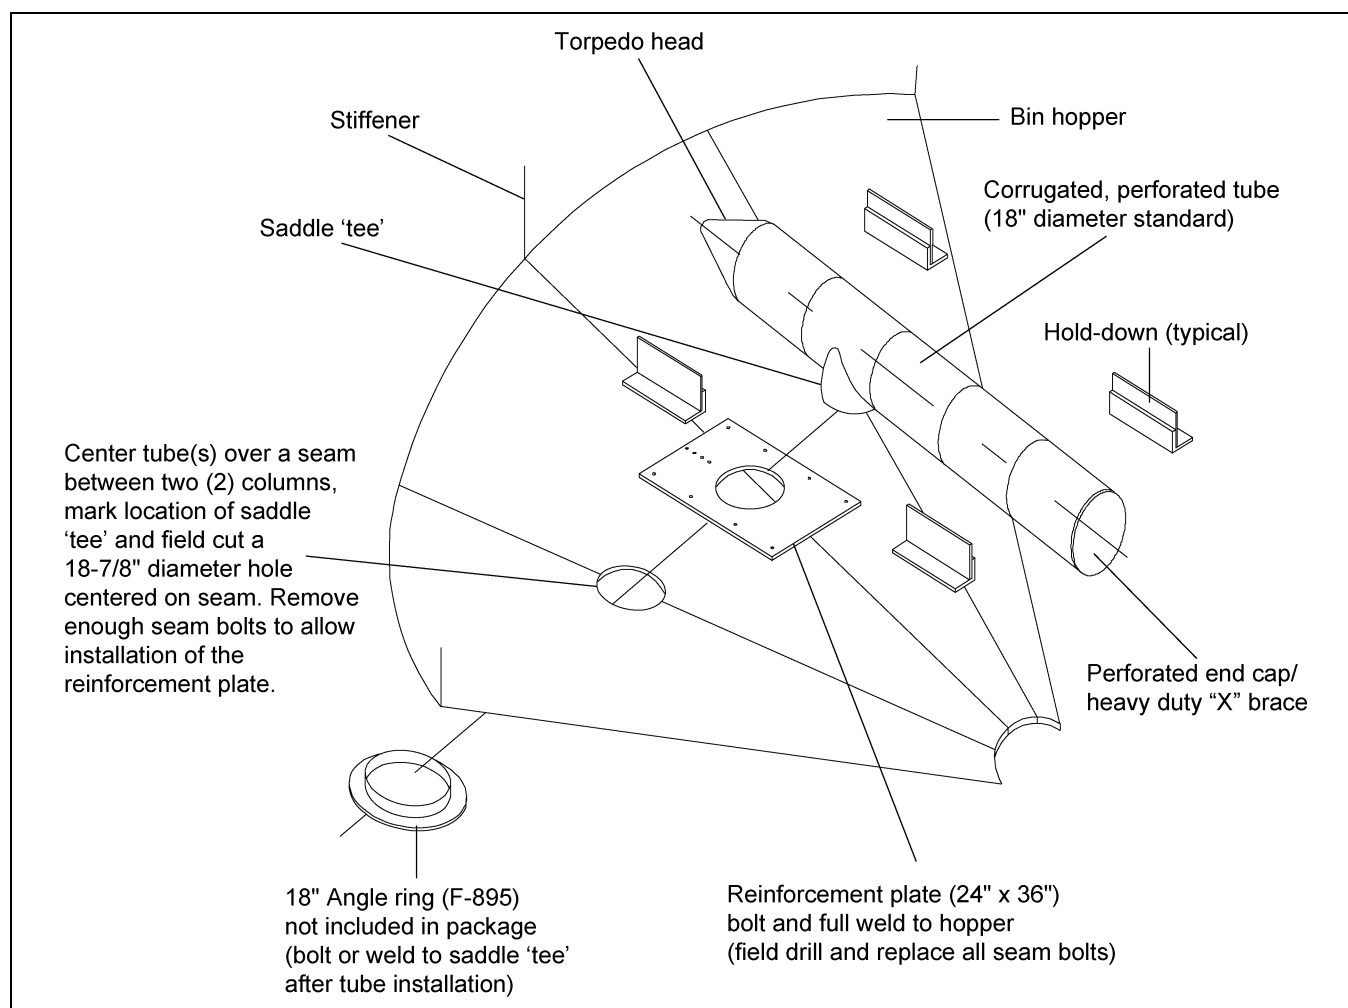

Figure 13A Typical Installation
- Step 5:** Install torpedo head at open end of tube and screw in place as shown *in Figure 13A*. (Screws not included.)
- Step 6:** Four (4) angles with corrugated pieces welded on them are supplied for each tube (two (2) per side). Bolt or weld each angle to the hopper sheet and screw or weld the corrugated material to the perforated tube (#14 x 1" self-drilling tek screws not provided).
- NOTE:** When two (2) tubes are installed, second tube is to be installed 180° from first tube.